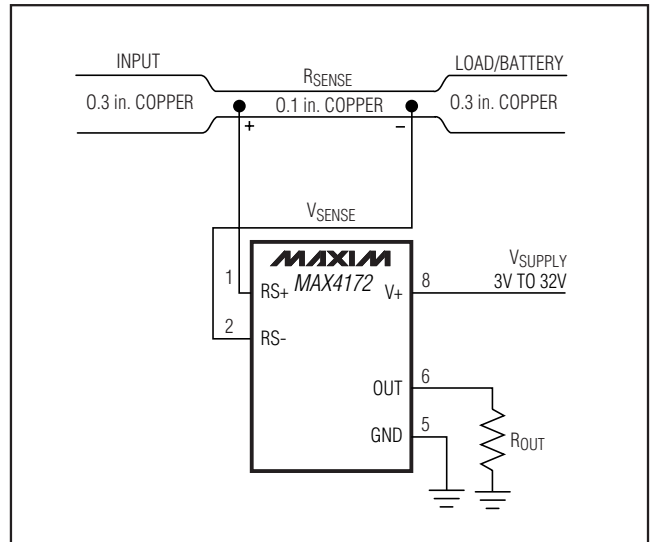

Figure 2. MAX4172 Connections Showing Use of PC Board
- Cost:** If the cost of  $R_{SENSE}$  is an issue, you might want to use an alternative solution, as shown in Figure 2. This solution uses the PC board traces to create a sense resistor. Because of the inaccuracies of the copper resistor, the full-scale current value must be adjusted with a potentiometer. Also, copper's resistance temperature coefficient is fairly high (approximately 0.4%/°C).
In Figure 2, assume that the load current to be measured is 10A, and that you have determined a 0.3-inch-wide, 2-ounce copper to be appropriate. The resistivity of 0.1-inch-wide, 2-ounce (70 $\mu$ m thickness) copper is 30m $\Omega$ /ft. For 10A, you might want  $R_{SENSE} = 5m\Omega$  for a 50mV drop at full scale. This resistor requires about 2 inches of 0.1-inch-wide copper trace.